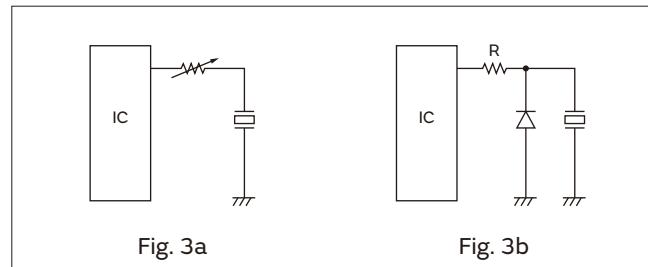

Fig. 3a
2. When driving the product by IC, please insert the resistance of 1k to 2kΩ in series. The purpose is to protect the IC and to obtain stable sound. (Please see Fig. 3a). Inserting a diode in parallel to the product has the same effect. (Please see Fig. 3b)